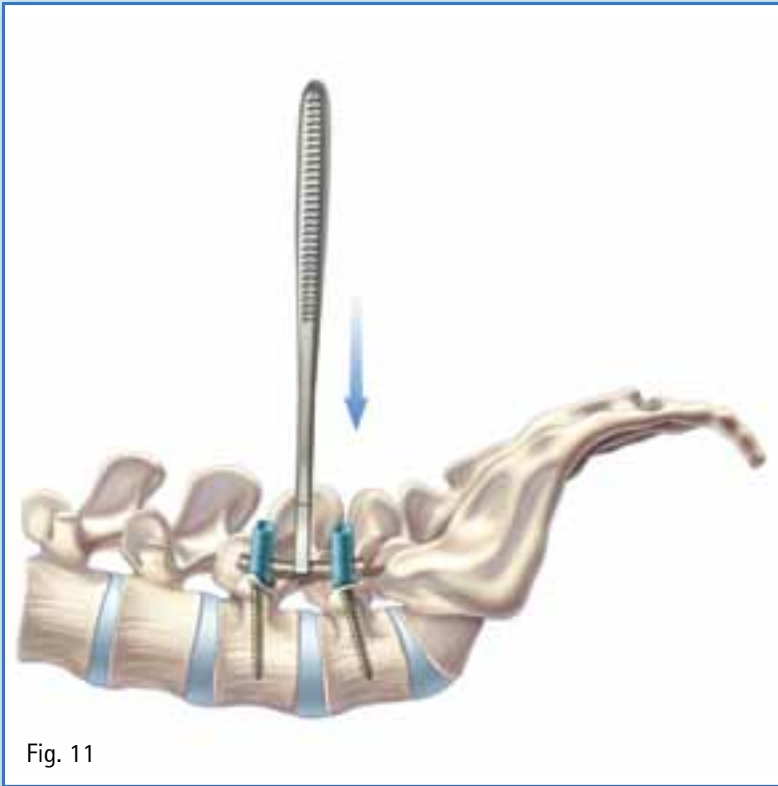

Fig. 11
- Use the rod holding forceps (FW012R) to assist with rod placement or rod manipulation. (Fig. 11)